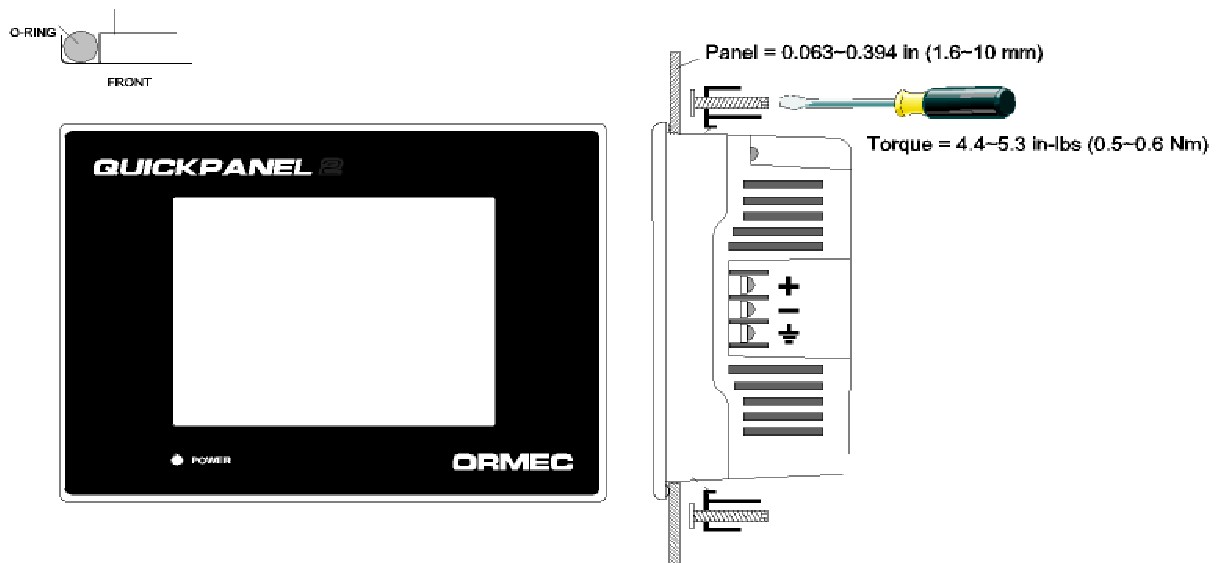

Figure 2, QuickPanel 2 Panel Installation Drawing
QuickPanel 2 units mount from the front and are secured to the panel with two pressure clamps each on the top and bottom of the display as shown in Figure 2.
- 2) Install the O-ring gasket in the slot around the edge of the display, as shown in Figure 2.
- 3) Insert the display into the cutout and install two clamp brackets each on the top and bottom of the display (4 clamps total), as shown in Figure 2. The Clamp brackets are installed by inserting the hooked section into the clamp slot and sliding the clamp bracket down.
- 4) Compress the O-ring gasket and secure the unit to the panel by turning the clamp screws clockwise, as shown in Figure 2. The screw torque required for a water tight gasket seal is 4.4 to 5.3 in-lbs (0.5 to 0.6 NM).